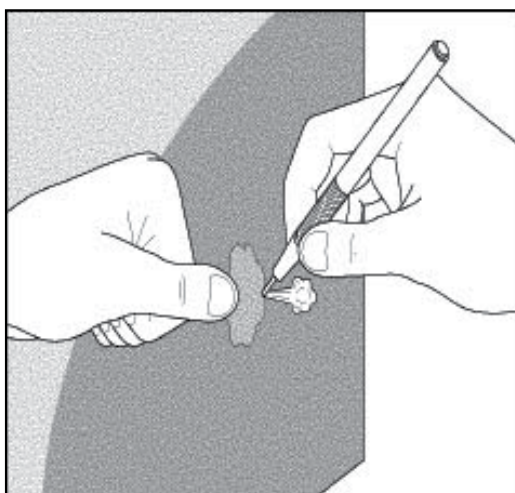

Figure 2 - Puncture the bubble to release the air
- 1.2. Puncture the bubble at one end with a pin or the 3M™ Air Release Tool 391X. Do not use a razor blade or a knife. Press out the entrapped air by moving your thumb toward the puncture (see Figure 2). ❖